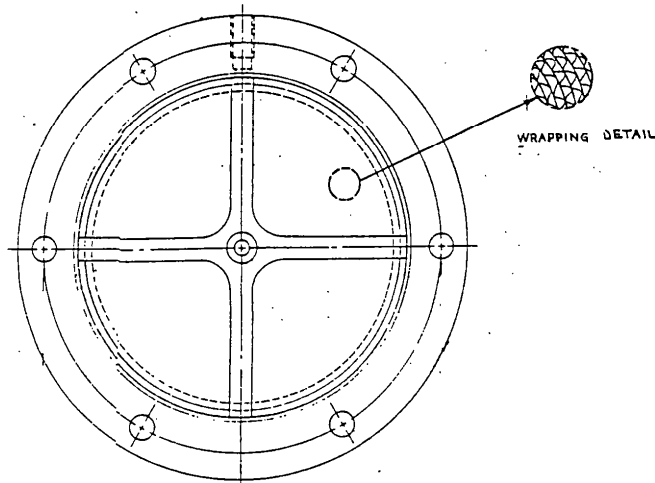

Figure 3. Intake Flame Arrester
6. ( ) Remove the intake flame arrester. The intake flame arrester is shown in Figure 3. The flame arrester core is clean and has no apparent damage.